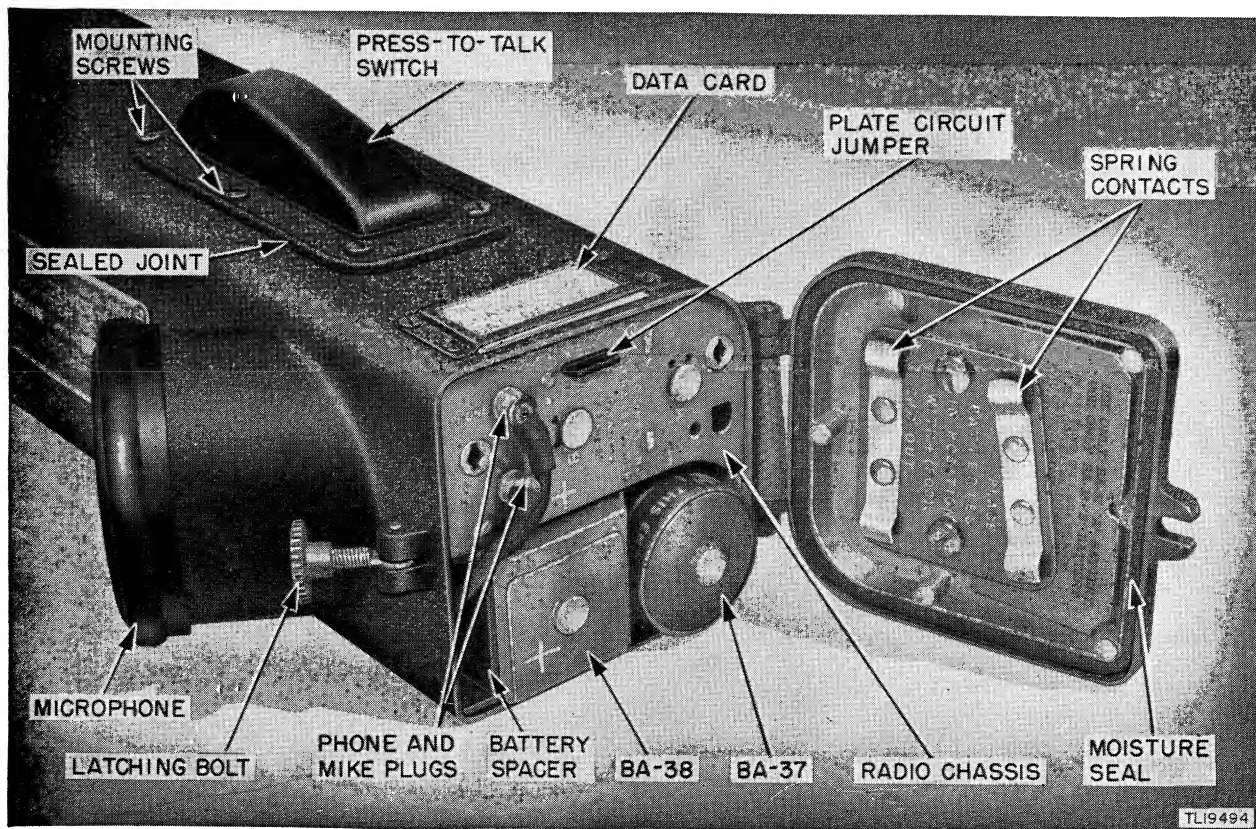

Figure 6. Radio Set SCR-536-(*), bottom cover open.
c. The bottom cover hinges to the housing and is provided with a slot into which a latching bolt fits. It is through this end of the housing that the chassis and the batteries are inserted or removed. Spring contacts on the terminal board inside the bottom cover provide the connection between the batteries and the radio chassis. (See fig. 6.)
one for the radio chassis, one for the square B battery, and one for the cylindrical A battery. (See fig. 6.)
The batteries are shown in figure 12. Battery BA-37 is the A, or filament, battery (1.5 volts). It is cylindrical in shape and shorter than the square B, or plate voltage, Battery BA-38 (103.5 volts). The compartments in the housing for the batteries are so designed that it is impossible to confuse the two batteries and inadvertently insert the wrong batteries in the wrong compartments. (See fig. 6.)
of Radio Receiver and Transmitter BC-611-(*). (See fig. 6.) The lead from the microphone should be plugged into the socket labeled MIKE, and the lead from the earphone should be plugged into the socket labeled PHONE. The black-handled jumper plug must be inserted between the sockets labeled PLATE METER. The contact studs should be clean and bright. If not, clean them with a pocket knife or other convenient scraper.
A rubber-covered press-to-talk switch is mounted on the side of the case. When held down, it operates the change-over switch that converts the set from a receiver to a transmitter. (See figs. 6 and 7.) The